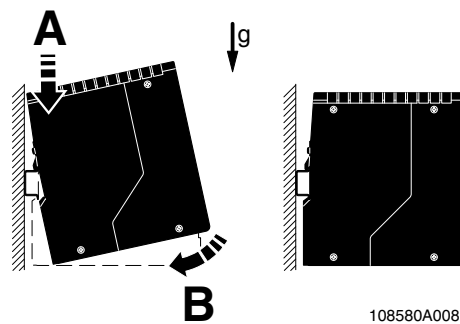

Figure 3-12 Snapping the RFC onto the DIN rail
9. Snap the RFC onto the DIN rail and check that it is securely locked in place (see Figure 3-12).